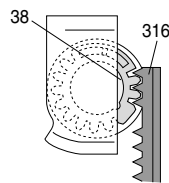

Fig. 5
- Insert the cassette compartment so that the teeth of the toothed rack (Pos. 316) engage with the cassette compartment gear (Pos. 38) as shown in Fig. 5.